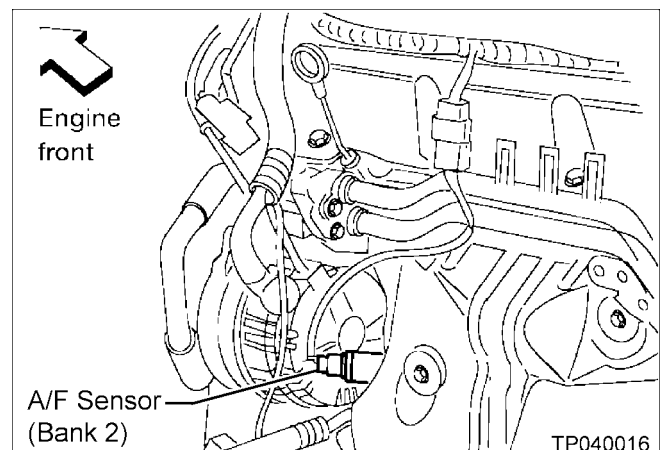

Figure 2
- It's located on the side of the engine that is towards the **front** of the vehicle (see Figure 2).